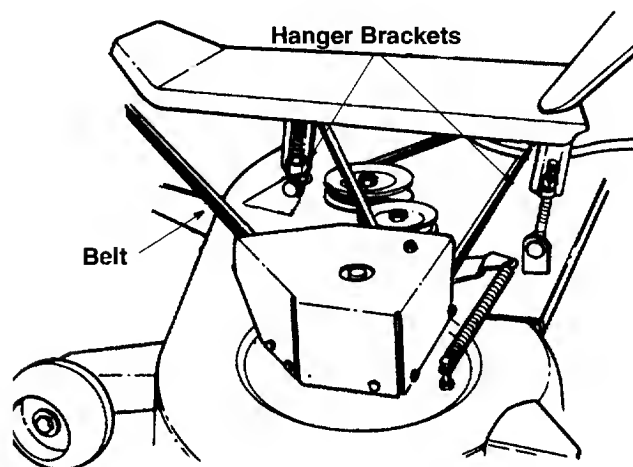

Figure 11
12. Lift up on the edge of the deck and hook up the left front deck hanger to the deck using a flat washer and hairpin clip. Make sure deck hanger goes through the center of V-Belt. See Figure 11.